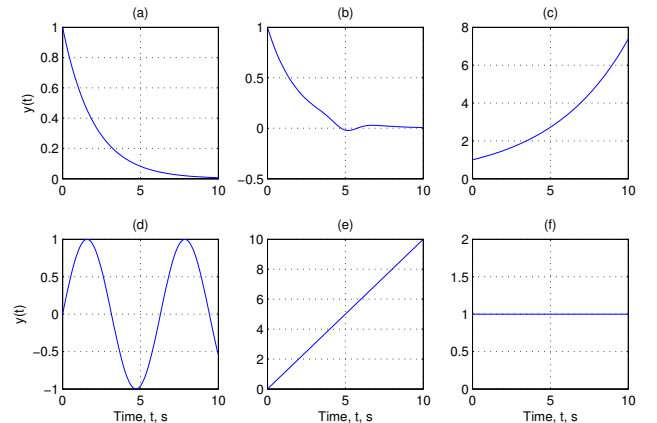

Figure 2: Figures for the Prelab Part 1.
- Figure 2 plots the zero-input (i.e., $u(t) = 0$) time-response of various different systems. For each: